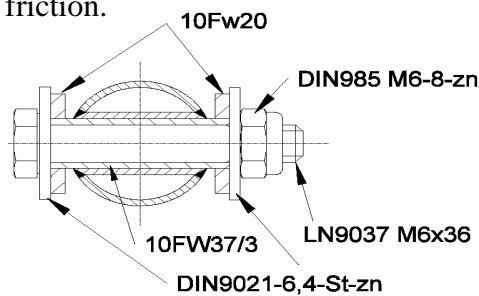

figure 16
12. Reinstall pushrod 10FW20 according to figure 16. The existing rear bush 10FW37/2 will be no longer be used. Check that 10FW20 can be moved to both ends of the elongated hole without noticeable friction.